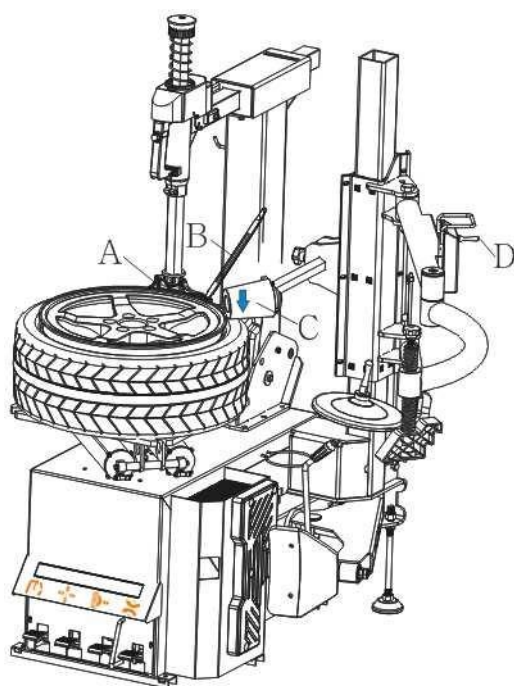

Fig. 10
- Place the mounting head A and roller C in position(use switch D to up/down the roller), insert the crowbar B(Fig. 10)